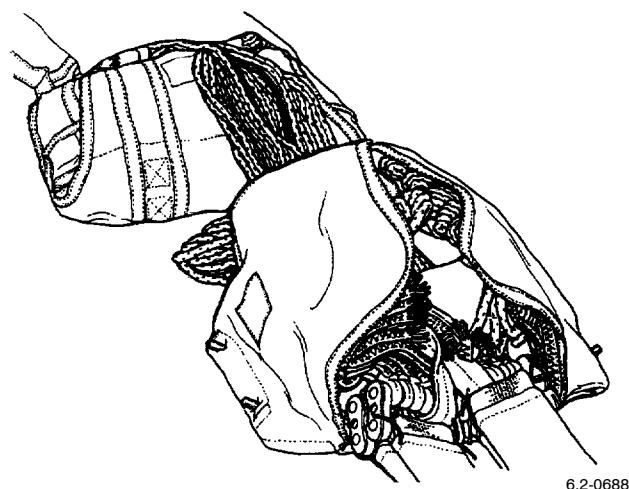

Figure 38. Suspension Line Stowage Trays Positioned Vertically
m. Fold the LH and RH stowage trays inboard to the vertical position (Figure 38).